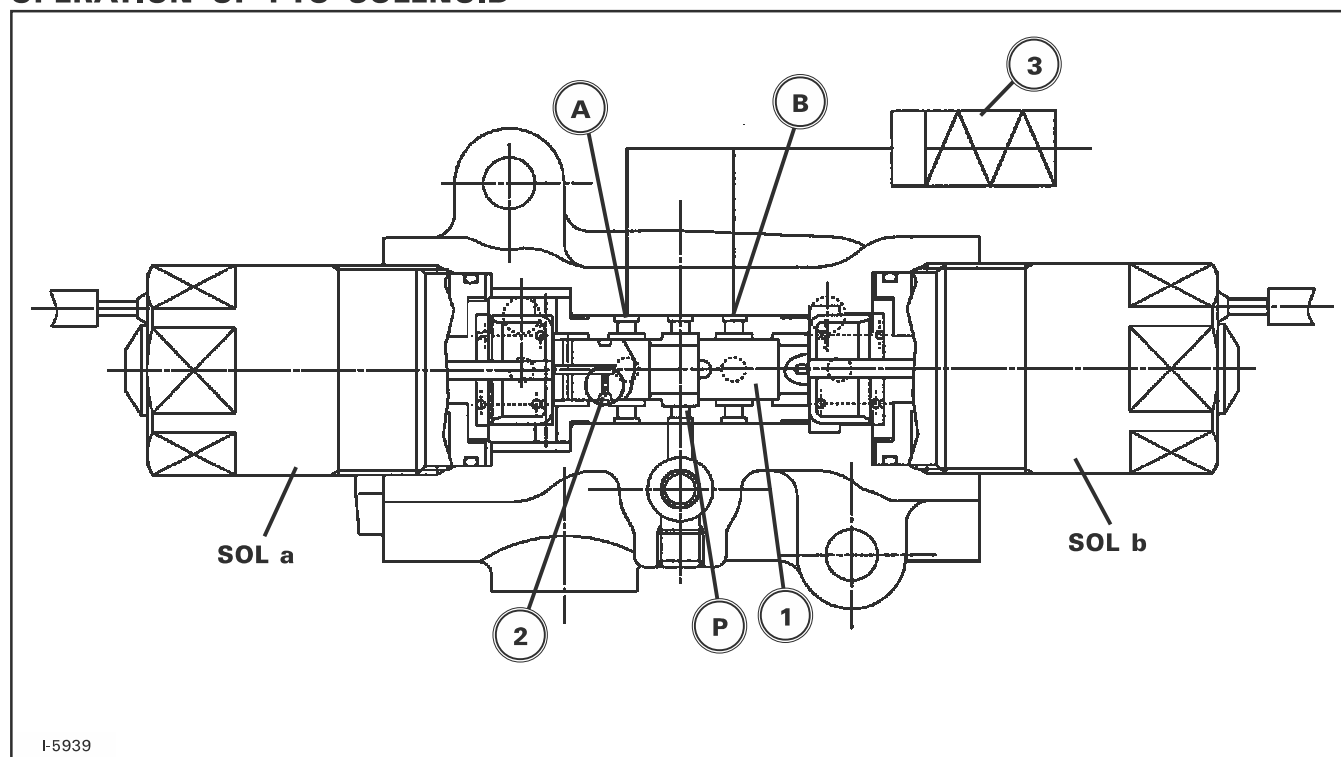

FIG. 5A-18
**FIG. 5A-18:** This solenoid valve turns on and off the PTO output by engaging the clutch smoothly without shock by controlling the flow and pressure of the fluid whose pressure is regulated at a constant level by the reducing valve to the PTO clutch, 3.